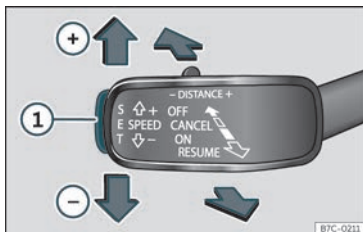

Fig. 209 On the left of the steering column: buttons to operate the speed limiter.
- While driving, press button **SET** >>> **Fig. 209** ①.
- Press the button **SET** >>> **Fig. 209** ① to reduce speed in small increments of 1 km/h (1 mph).
If you want to temporarily deactivate the speed limiter, e.g. for overtaking, move the lever to the pressure point **CANCEL** or press button >>> **Fig. 209** ②.